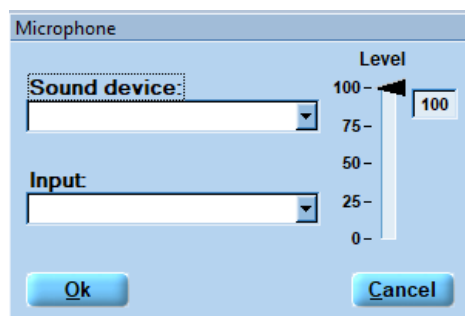

Figure 94
**Microphone:** Select a **Sound device** and **Input** via the drop-down menu and adjust the **Level** (Figure 94).